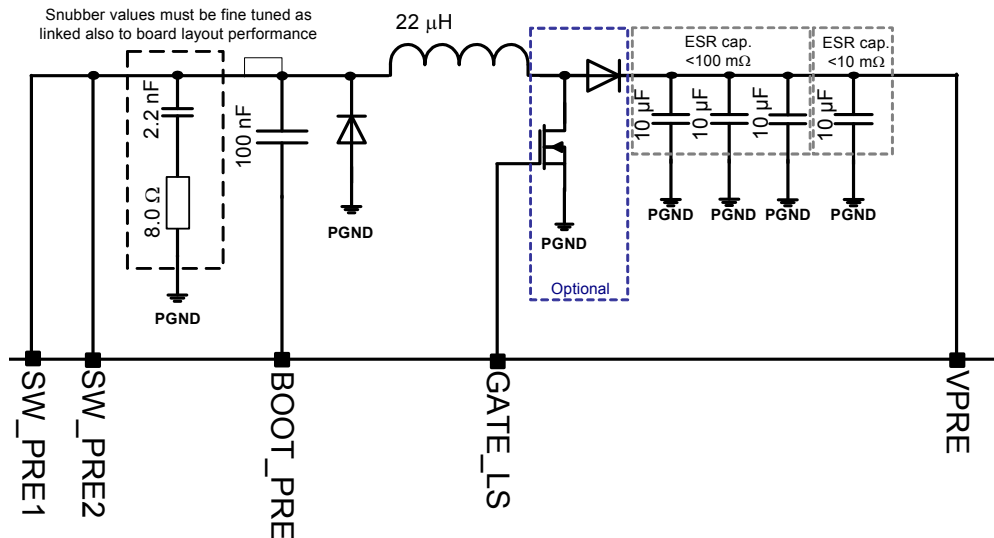

Figure 4. Buck-boost configuration
- In buck-boost configuration, an external logic level MOSFET (N-type) must be connected to the Gate_LS pin and an additional diode is needed, as shown in Figure 4.